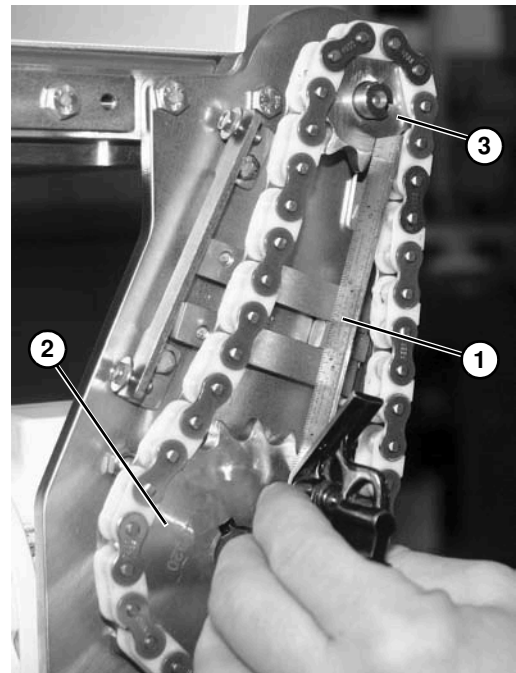
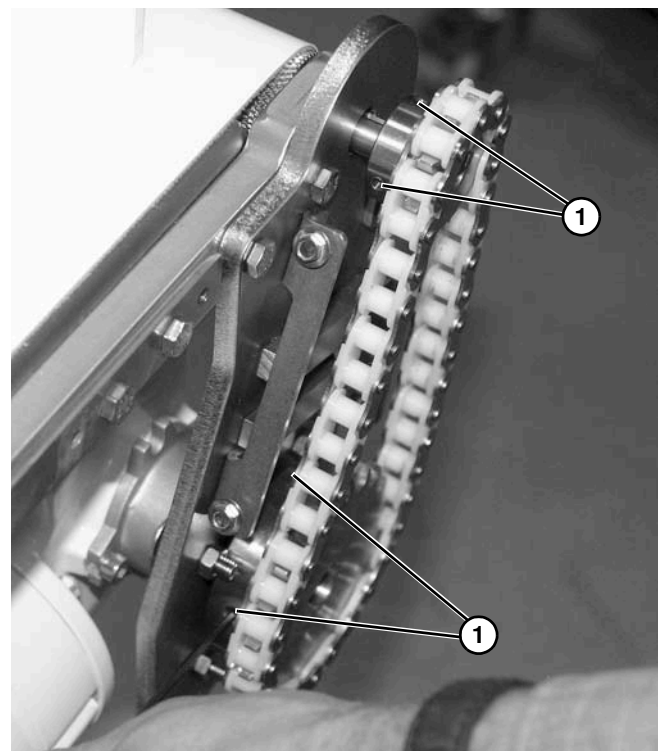

Figure 39
Figure 40
*Using a straight edge (**Figure 39, item 1**), make sure drive sprocket (**Figure 39, item 2**) aligns with driven sprocket (**Figure 39, item 3**). Tighten drive and driven sprocket set screws (**Figure 40, item 1**).*